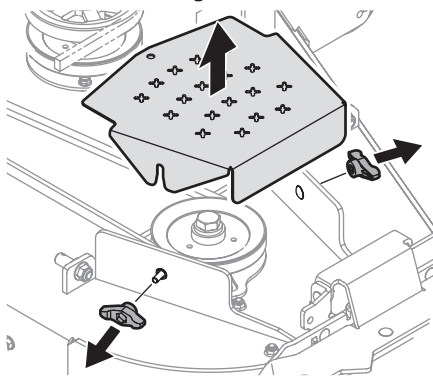

Figure 18
- Clean the top of the mower deck, under the spindle covers and belt area. See Figure 18.
Once a month remove the belt covers to remove any accumulation of grass clippings from around the spindle pulleys and V-belt. Clean more often when mowing tall, dry grass. Remove the wing knobs to remove the belt covers. See Figure 18 on page 17.